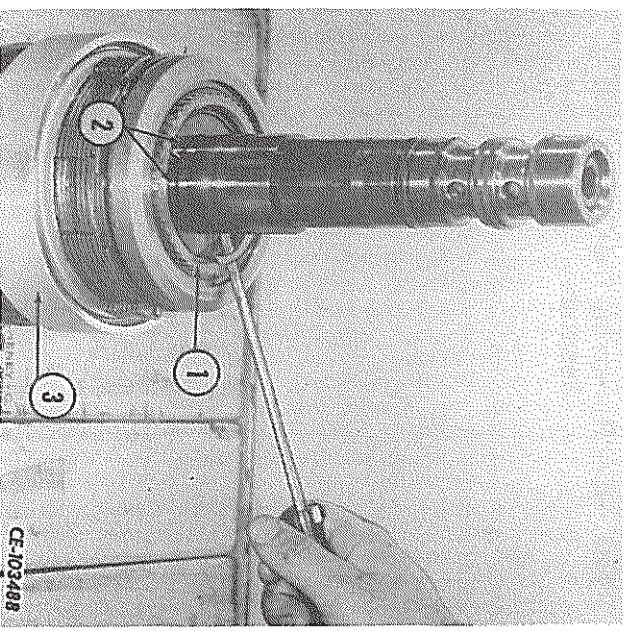

FIG. 47 — Removing the Clutch Hub Retainer Snap Ring
35. Remove the internal snap ring from the groove in the clutch hub (1, Fig. 47) which secures the two clutch hub retainers (2). Remove the clutch hub retainers. To free the clutch hub retainers from the shaft, grasp